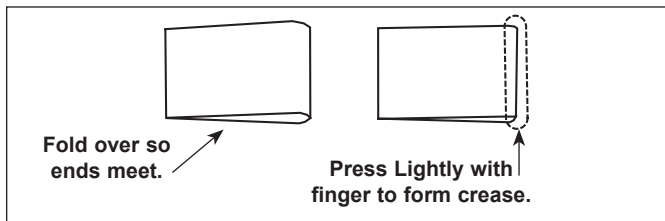

Figure 5. Folding the Release Sheet
2. Lay a new Release Sheet on a clean, dry surface and fold it in half lengthwise and gently crease it at the fold using only your fingers (Figure 5).